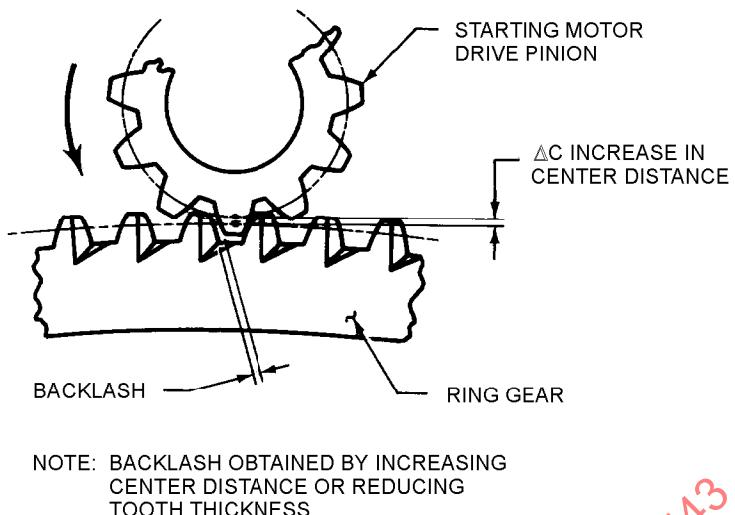

FIGURE 2—PINION AND RING GEAR
4. **Ring Gear and Pinion Installation**—Backlash is necessary for free meshing and running of the pinion with the ring gear. Backlash may be obtained by increasing the center distance as shown in Figure 2 or by reducing the tooth thickness.
- c = ΔC is the increase in center distance to obtain backlash Figure 2. If backlash is obtained by reducing tooth thickness, omit ΔC from the C.D. formula.